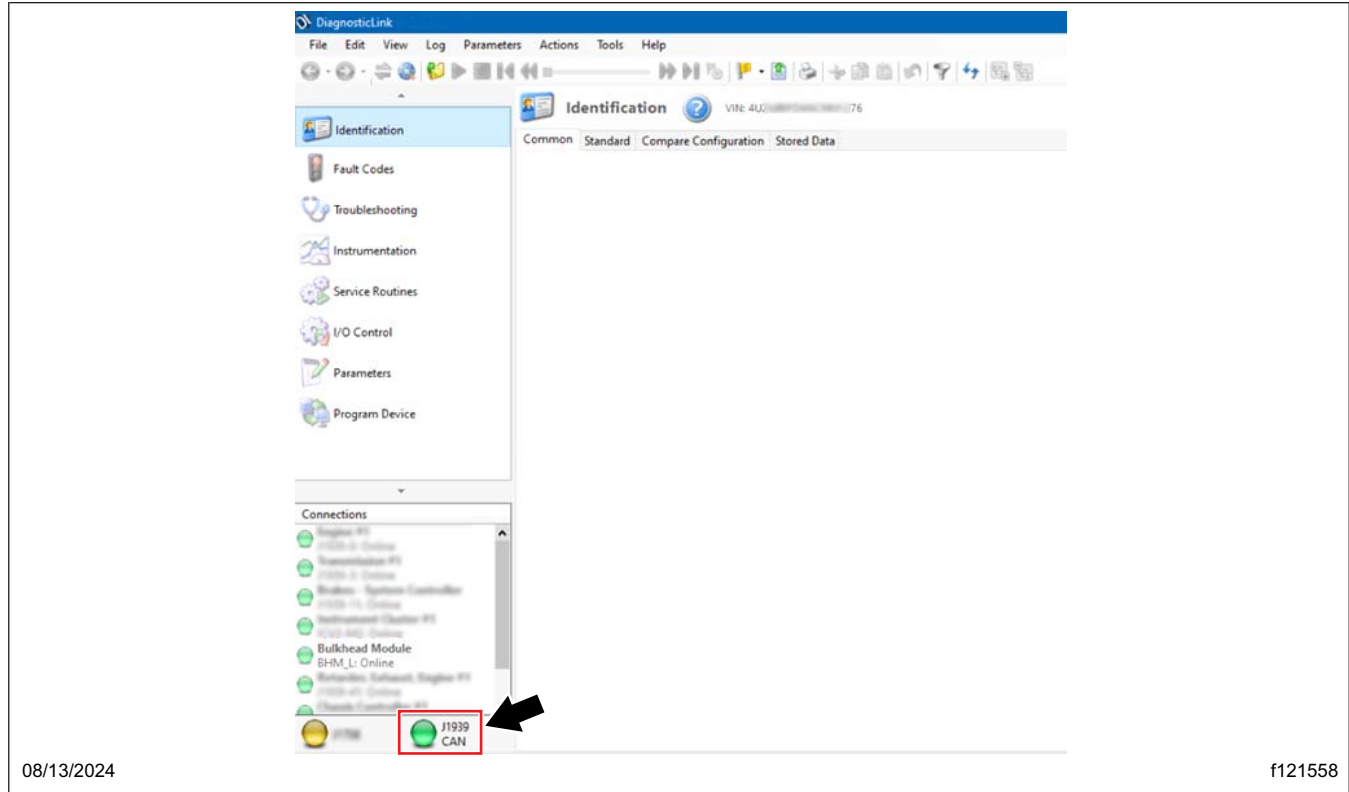

Fig. 1, J1939 Online
6. Make sure the 'J1939' databus communicates with DiagnosticLink, and is visible in the 'Connections' panel at the bottom-left of the screen. See Fig. 1.